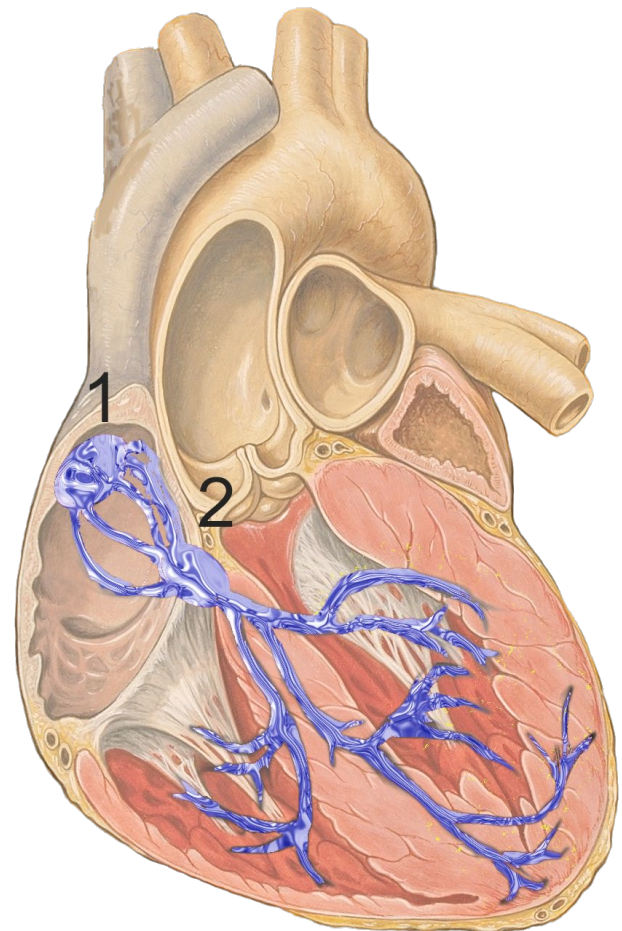

Figure 1 The heart muscle showing sinoatrial (1) and atrioventricular (2) nodes. (Reference 1).
The heart, a biochemical-electromechanical system, develops an electrical impulse that travels from the sinoatrial (SA) node in the upper right atrium to the atrioventricular (AV) node. The SA node acts as the pacemaker for the system (Figure 1).